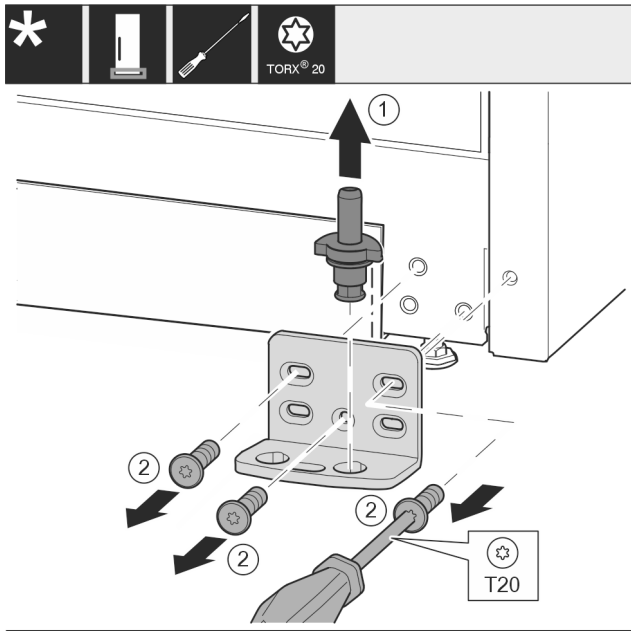

Fig. 15
- Completely pull out the bearing pin Fig. 15 (1) upward.
- Use a screwdriver to unscrew the screws Fig. 15 (2) and remove the swap bearing block.